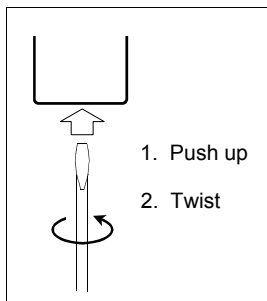

Fig. 2. Opening the case
- Open the case.** Remove the GEM-TRANSLP transmitter cover from its mounting plate by inserting a small screwdriver into either slot; twist while applying upward pressure. See Fig. 2.